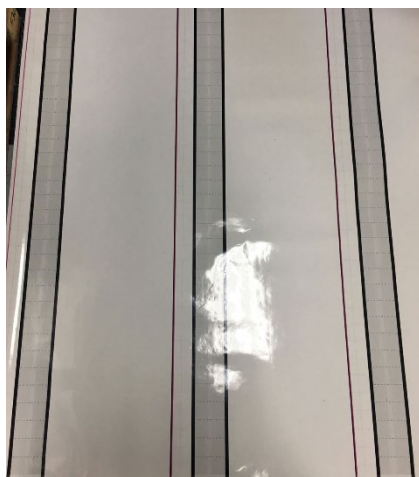

Figure 1: Advance plot with several columns
1. The Advance plot is composed of several columns (Figure 1), each one located between two black lines. Each of these columns contain numbered patterns and one column corresponds to each number.